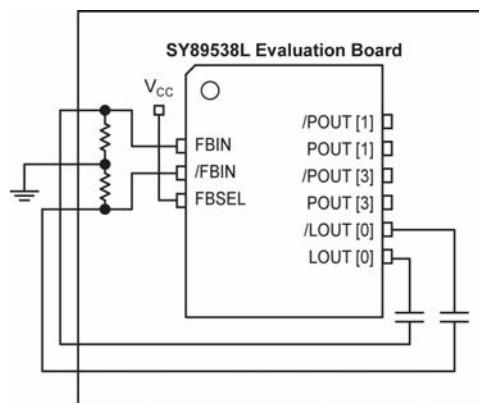

Figure 1a. Zero-Delay (LVDS Output)
2. Connect the output to the feedback input (FBIN), see Figure 1a and 1b.